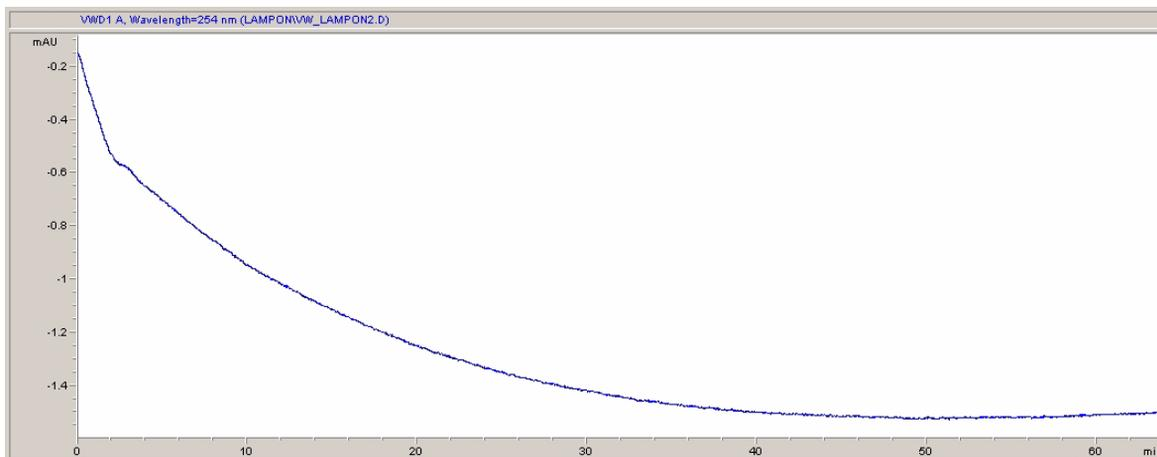

Figure 16 Stabilization of Baseline
- 6 Allow the detector to warm up of at least 60 minutes to provide a stable baseline (see example in Figure 16 on page 58).